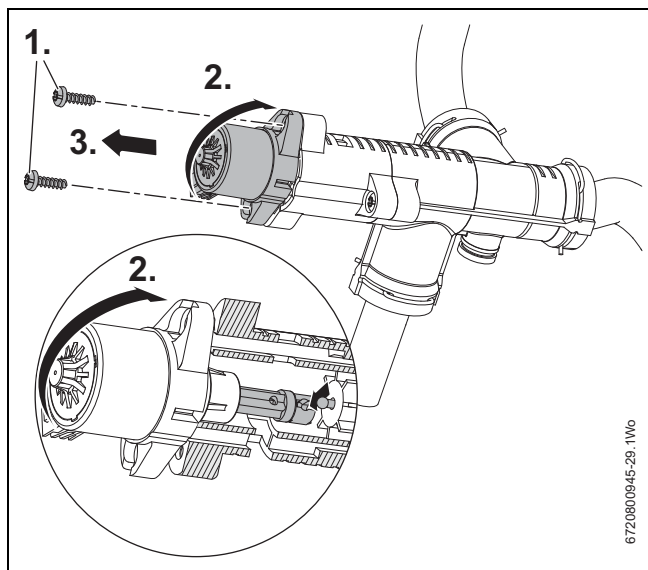

Fig. 78 Disconnect DV motor
2. Rock the motor in the direction of the arrow to disengage the motor actuator socket from the ball end of the valve actuator, refer to figure 78 inset below.
- ▶ Ensure that the socket on the motor actuator is aligned as shown in figure 78 inset.